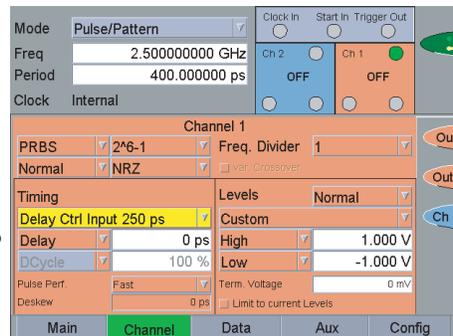

Figure 6: Setup of the 81134A
- Switch on the trigger output and the channel 1 output. The screens now should look like it is shown in figures 6 and 7.